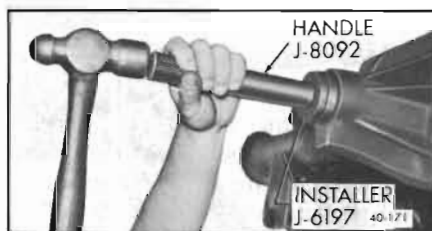

Figure 40-171—Installing Front Pinion Bearing Outer Race
1. Drive front pinion bearing outer race against shoulder on carrier using Replacer J-6197 with driver handle. See Figure 40-171.